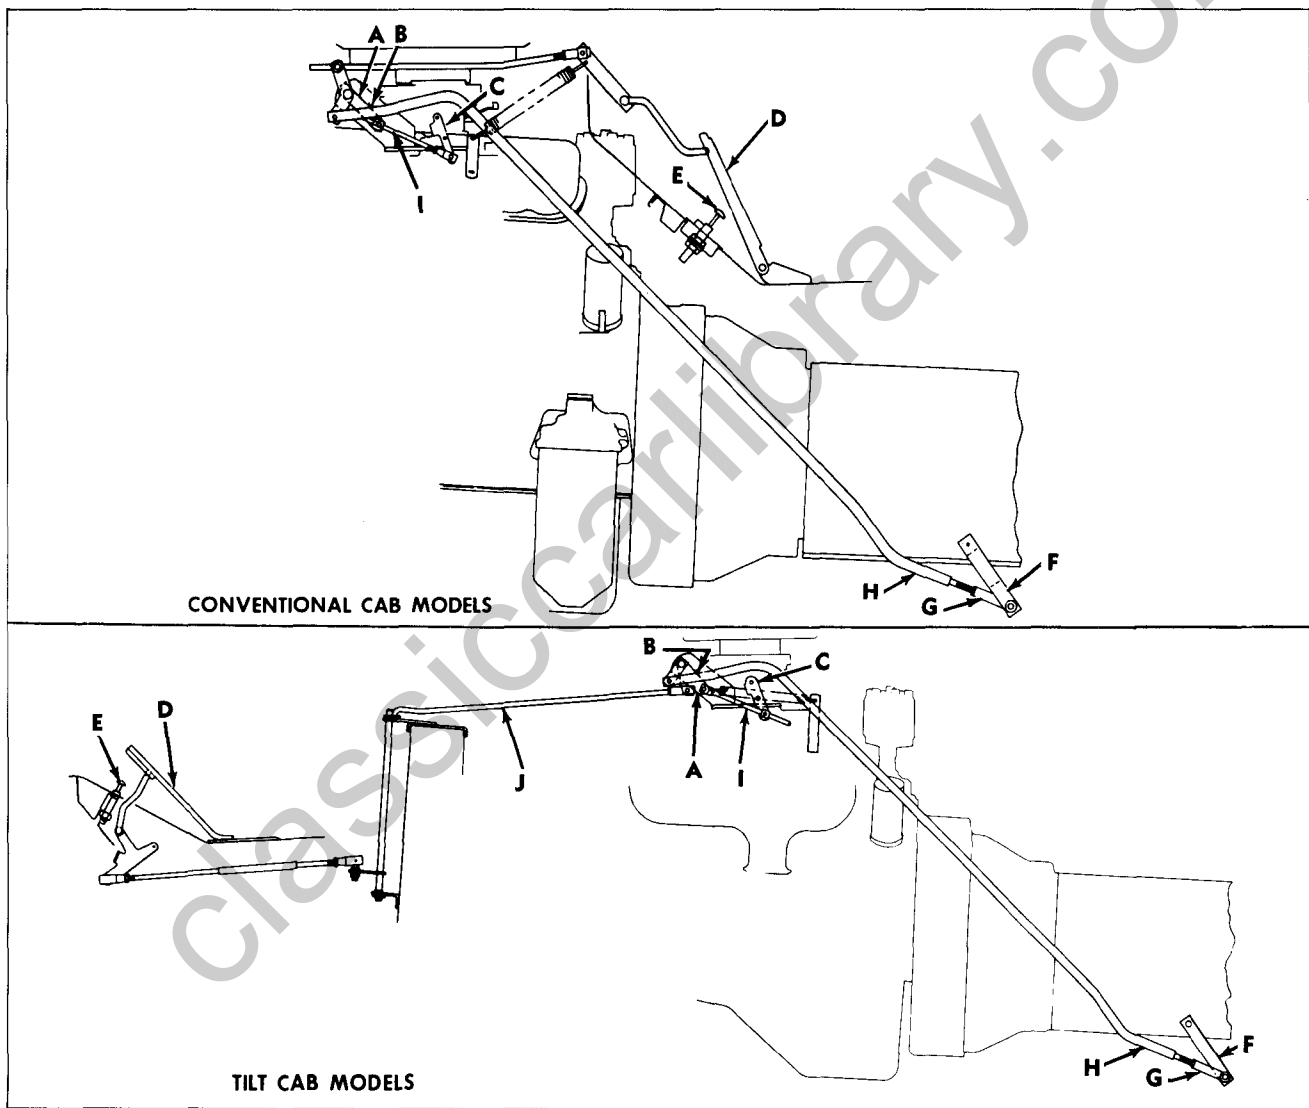

Figure 14—Accelerator and TV Linkage (Allison Transmission)
Accelerator and TV Linkage Adjustment Procedure (Refer to Fig. 14)
IMPORTANT: Adjustment of the detent button (E) is accomplished by relocating the two jam nuts located on either side of the cab floor (see fig. 14). With the accelerator pedal depressed to the thru-detent position (detent button (E) - compressed) ample clearance must exist between the pedal and floor, to assure complete movement of the TV linkage to the thru-detent position.
5. With the accelerator pedal (D) just touching detent button (E), the carburetor throttle lever should be in full throttle position. If adjustment is required, shorten or lengthen rods between accelerator pedal and carburetor throttle lever and, if necessary, reposition detent button (E) to obtain above conditions.
a. To raise shift point, shorten rod (H), by turning clevis (G) one turn at a time until the desired shift point is obtained. Tighten jam nut securely against clevis.
b. To lower shift point, lengthen rod (H) by